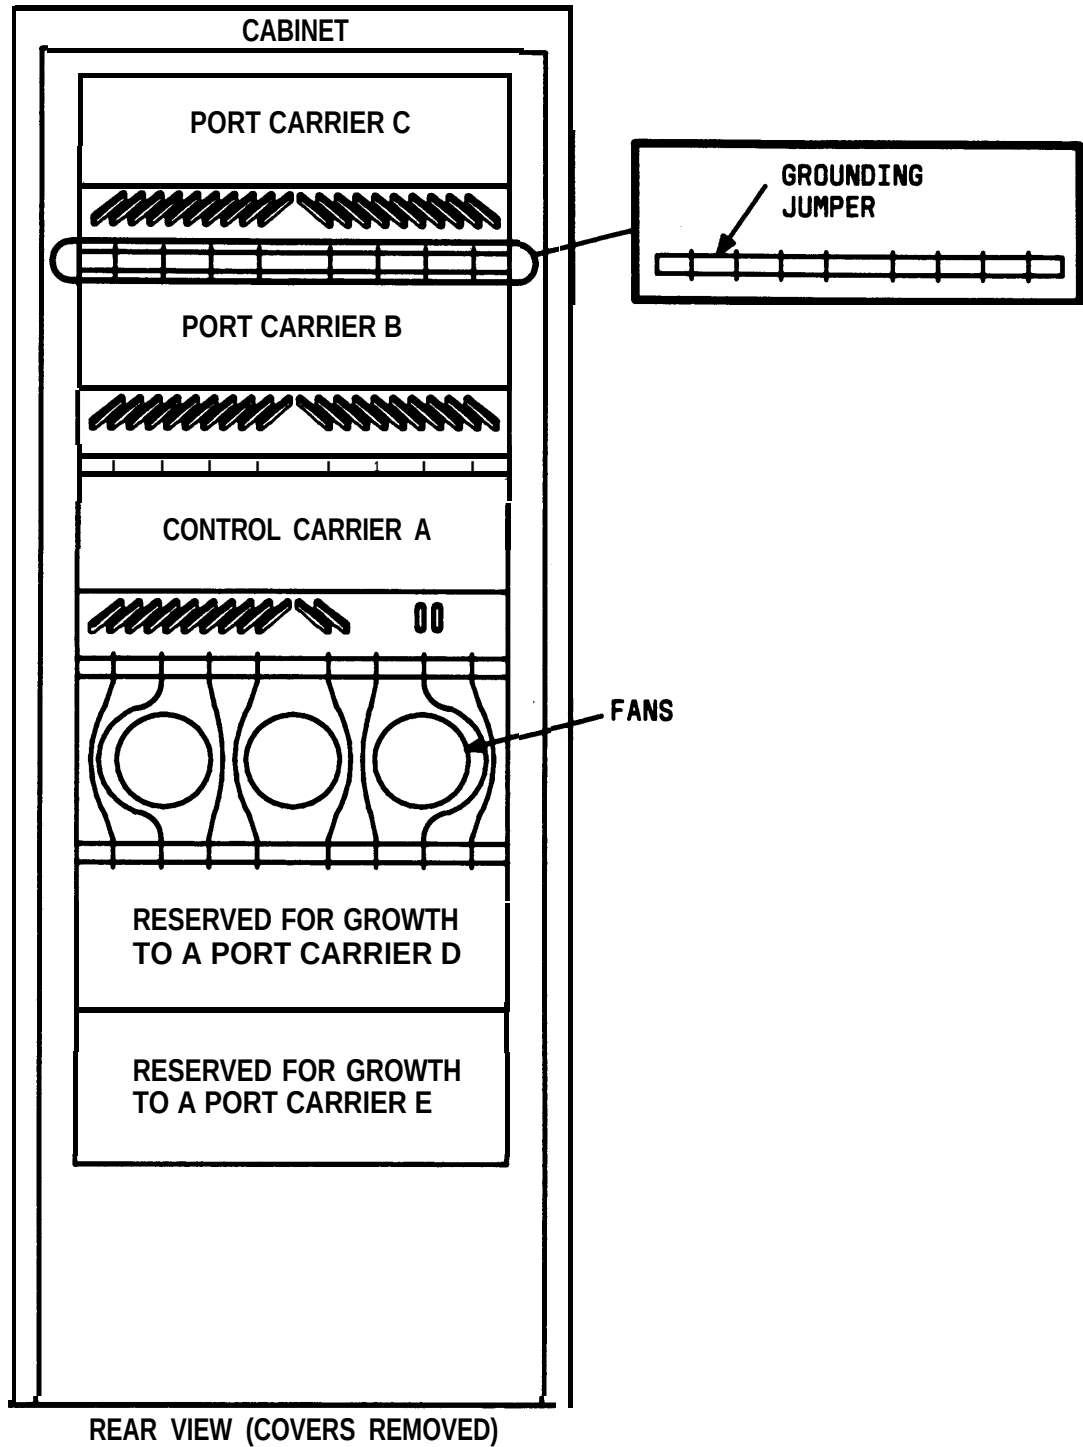

Figure 21. Medium Cabinet Grounding Jumper Locations
- Ž Install eight grounding jumpers between port carriers B and C (Figure 21).